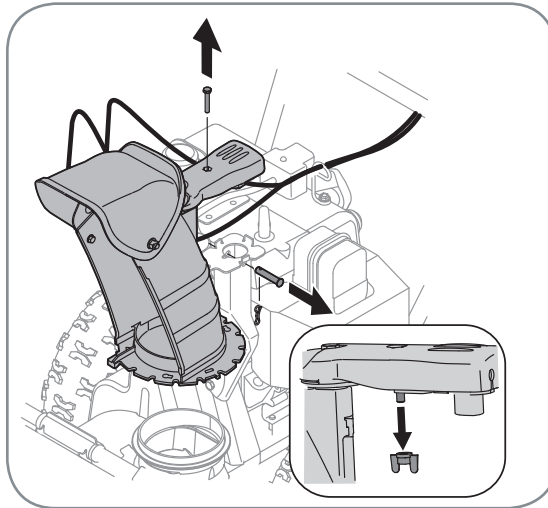

Figure 2
2. If it's not already attached from the factory, position the chute assembly (forward-facing) over the chute base. See Figure 2.